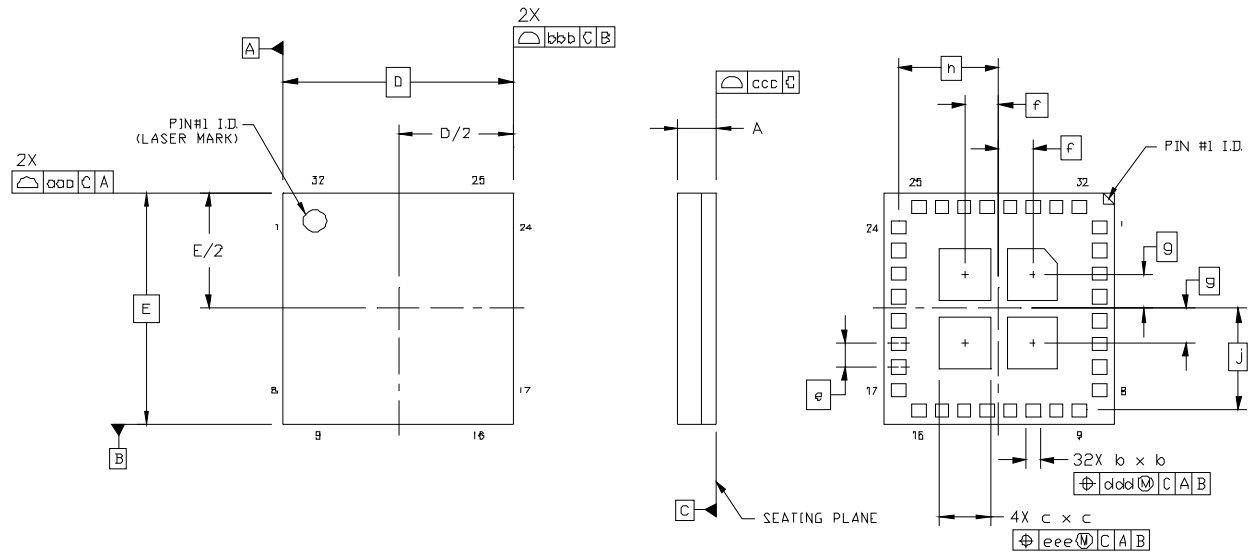

Figure 25. 32-Pin Land Grid Array Package (LGA)
Figure 25 illustrates the package details for the Si5040. Table 14 lists the values for the dimensions shown in the illustration.
- Updated package drawing in Figure 25.